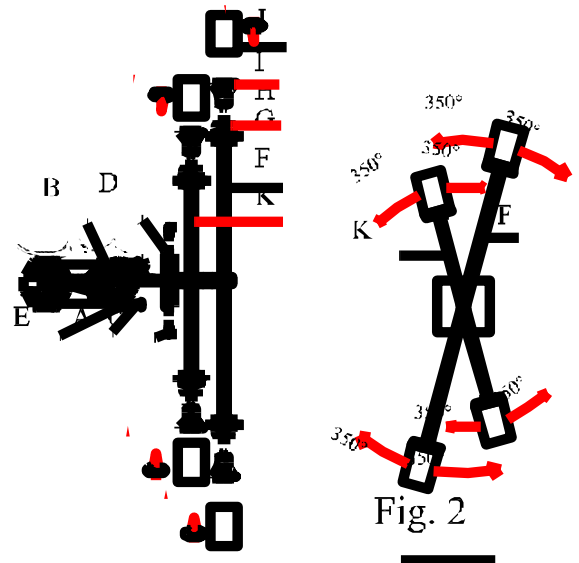

Fig. 2
STEP2: Put the back plate (D) over the universal mounting plate (B) and secure it to universal mounting plate rib (E) with mounting screw (C).
STEP3: Install bulb (I) to socket (H) (Do not exceed the maximum capacity recommended on the socket.)
STEP4: Thread metal shade (J) to fitter (G) tightly
STEP5: The fixture arm (F), (K) could be rotated to the angle desired.(Note: Max. 350° .(See Fig. 2)